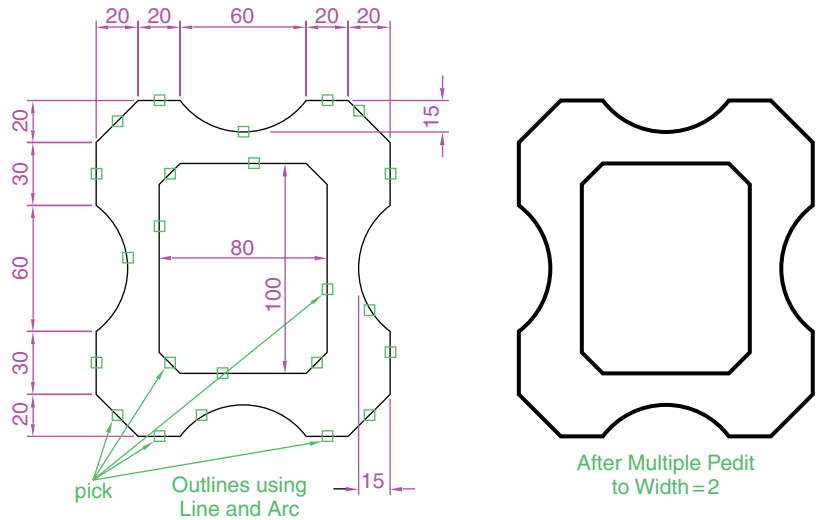

Fig. 3.31 Example – **Multiple Polyline Edit**
Example – Multiple Polyline Edit (Fig. 3.31)
1. With the **Polyline** tool construct the left-hand outlines of Fig. 3.31.
Select objects: *pick* any one of the lines or arcs of the left-hand outlines of Fig. 3.31 **1 found**
Continue selecting lines and arcs as shown by the *pick* boxes of the left-hand drawing of Fig. 3.31 until the command line shows:
The result is shown in the right-hand drawing of Fig. 3.31.